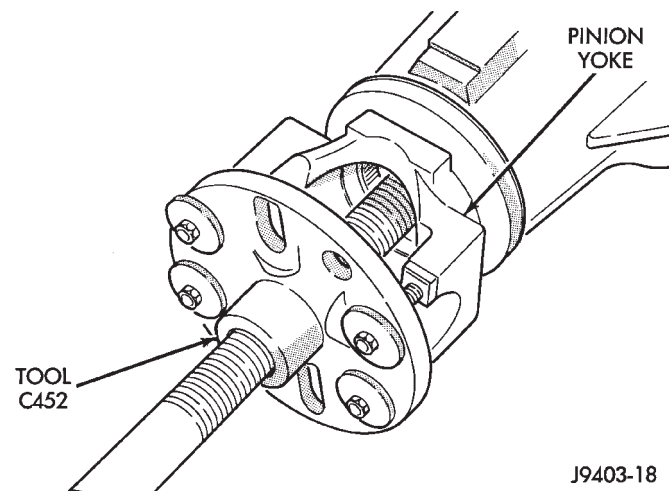

Fig. 13 Yoke Removal
(7) Measure the amount of torque necessary to rotate the pinion gear with a (in. lbs.) dial-type torque wrench. Record the torque reading for installation reference.
(8) Hold the yoke with Wrench 6719. Remove the pinion shaft nut and washer.
(9) Remove the yoke with Remover C-452 (Fig. 13).